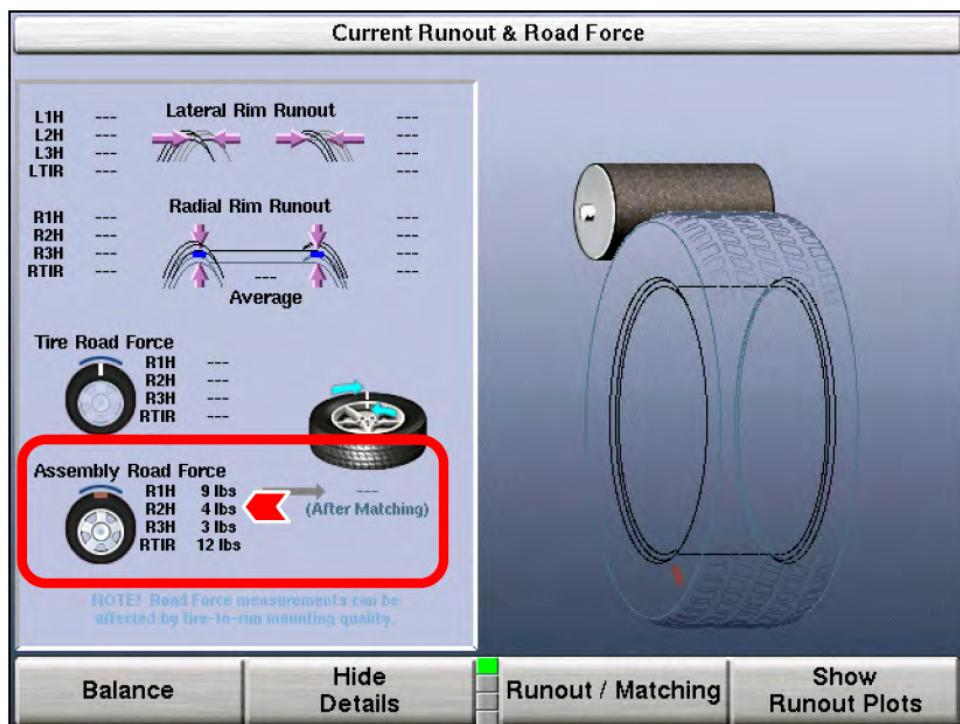

Figure 3
c. "Assembly Road Force" will display (see Figure 3).